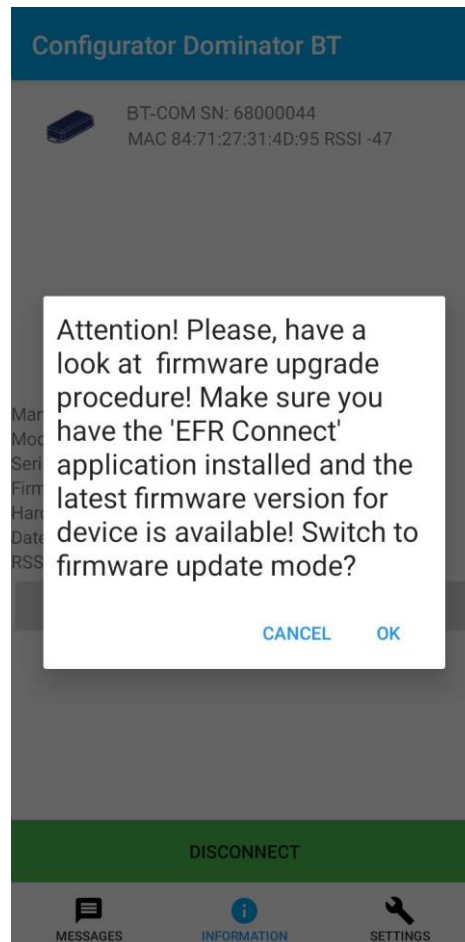

Fig. 4.1. Switching the Receiver to the flashing mode
- 4) Run **EFR Connect** app and choose «**Browser**» (fig. 4.1).